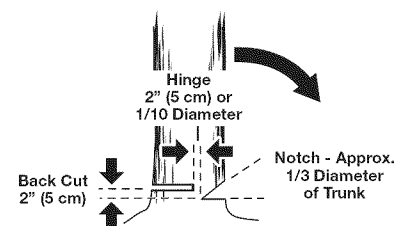
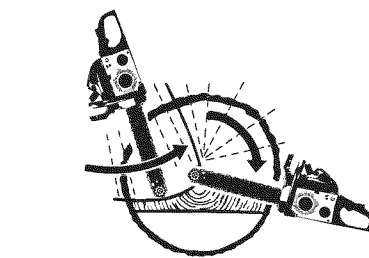
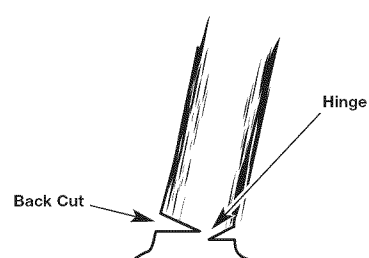

Fig. 18
Fig. 19
Fig. 20
- Notched Undercut.** This cut determines the direction that the tree will fall. It should be made on the side of the tree facing the felling direction. Cut a notch about 1/3 the diameter of the trunk in the side of the tree. Make the notch cuts so they intersect at a right angle to the line of fall. This notch should be cleaned out to leave a straight line. To keep the weight of the wood off the saw, always make the lower cut of the notch before the upper cut. (Fig. 18)
- Felling Back Cut.** This cut fells the tree. Make the back cut level and horizontal, and at a minimum of 2 inches (5 cm) above the horizontal cut of the notch (Fig. 18). If the diameter of the tree is greater than the length of the guide bar, make two cuts as shown (Fig. 19). When the felling cut gets close to the hinge, the tree should begin to fall (Fig. 20). If there is any chance the tree may not fall in the desired direction or if it may rock back and bind the saw chain, stop cutting before the felling cut is complete and use wedges of wood or plastic to open the cut and drop the tree along its desired line of fall (Fig. 21).